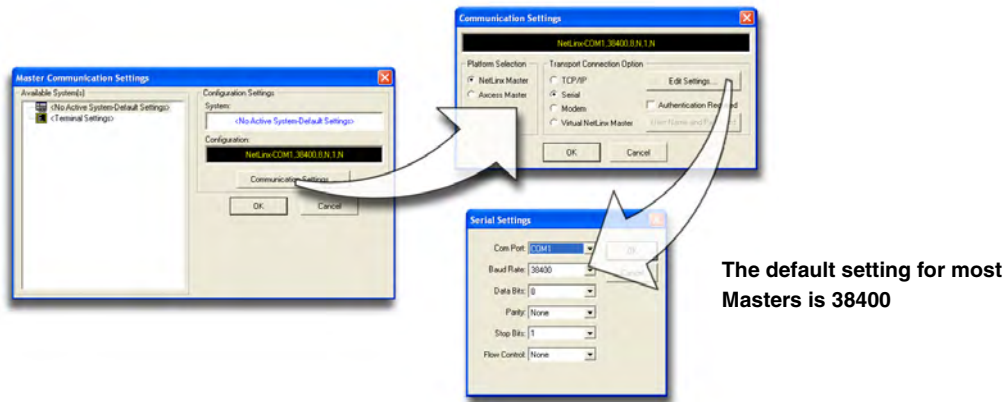

FIG. 32 Assigning Master Communication Serial Settings and Baud Rates
2. Select **Settings > Master Communication Settings**, from the Main menu, to open the Master Communication Settings dialog (FIG. 32).
3. Click the **Communications Settings** button to open the Communications Settings dialog (FIG. 32).
6. Click the **Edit Settings** button to open the Serial Settings dialog (FIG. 32).